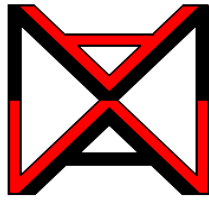

Figure Step 4
Step 4 Union the solids together to create one single solid model. (Figure Step 4)